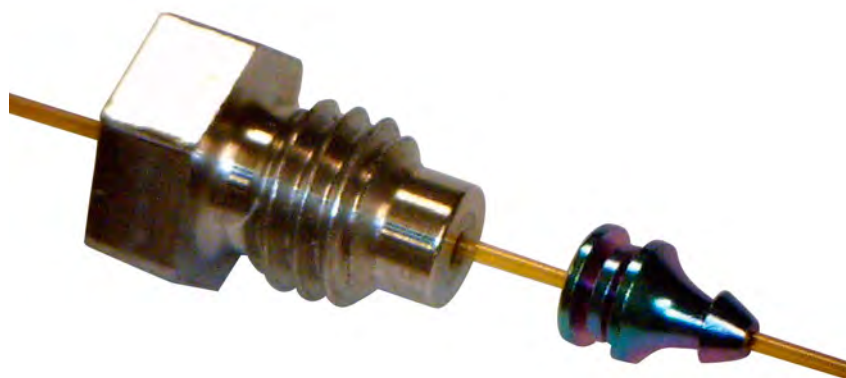

Figure 10. Ferrule swaged to column and internal nut
- 7 Using the 1/4-inch open-ended wrench, turn the internal nut an additional 15 to 20 degrees clockwise to assure the ferrule is properly swaged onto the column. See **Figure 10**.